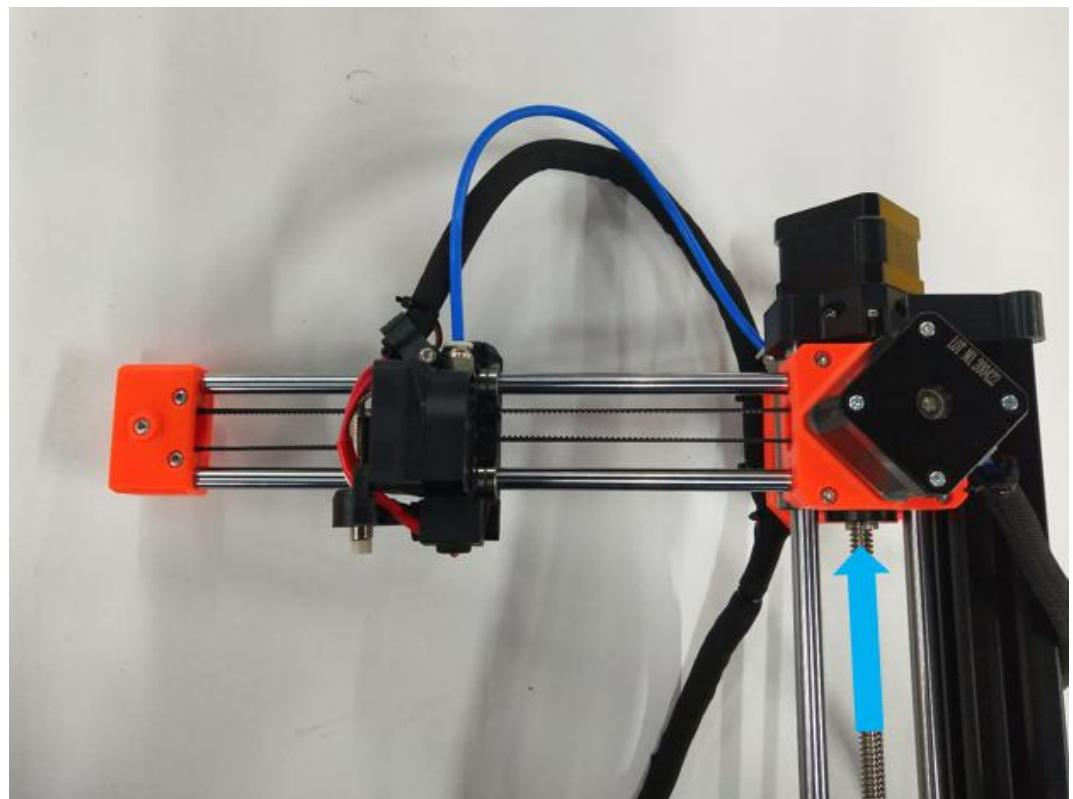

Figure 4.2.3
**Step 4-2-3:** As shown in Figure 4.2.3, raise the X-axis module to the highest position and prepare for the next installation.